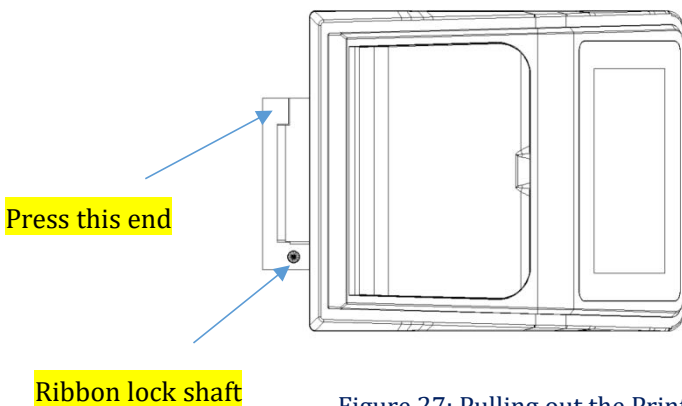

Figure 27: Pulling out the Printer
- b. Press on one end of the ribbon as shown in **Figure 27**;